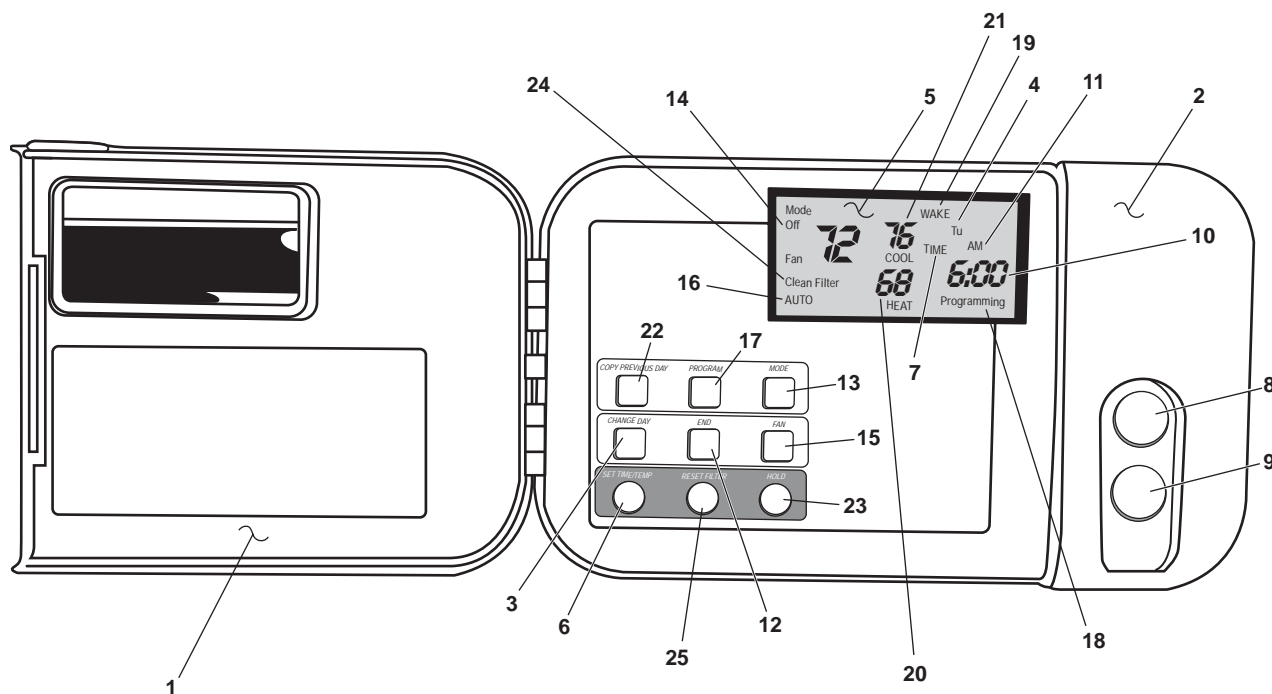

Figure 24. Pilothouse Rooftop Air Conditioning Thermostat
2. OPEN the cover (figure 24, item 1) of the thermostat (figure 24, item 2).
3. Verify/set the current day by pressing the CHANGE DAY BUTTON (figure 24, item 3) on the thermostat (figure 24, item 2) until the desired day (figure 24, item 4) is displayed on the Liquid Crystal Display (LCD) (figure 24, item 5).
4. Verify/set the current time by pressing the SET TIME/TEMP button (figure 24, item 6). The word TIME (figure 24, item 7) will flash on the LCD (figure 24, item 5).
5. Press the UP button (figure 24, item 8) or the DOWN button (figure 24, item 9) on the thermostat (figure 24, item 2) until the desired time (figure 24, item 10) and AM or PM (figure 24, item 11) is displayed on the LCD (figure 24, item 5).
6. Once the desired time has been set/verified, press the END button (figure 24, item 12) on the thermostat (figure 24, item 2).
7. Verify/set the mode of operation by pressing the MODE button (figure 24, item 13) on the thermostat (figure 24, item 2). The words OFF, HEAT, COOL, and AUTO (figure 24, item 17) will rotate in the MODE display (figure 24, item 14).
8. Press the MODE button (figure 24, item 13) until the desired mode is displayed in the MODE display (figure 24, item 14).
9. Press the FAN button (figure 24, item 15) on the thermostat (figure 24, item 2) to move the fan setting between ON (figure 24, item 19) and AUTO (figure 24, item 17) on the FAN display (figure 24, item 16).
10. CLOSE the cover (figure 24, item 1) of the thermostat (figure 24, item 2).
1. OPEN the cover (figure 24, item 1) of the thermostat (figure 24, item 2).
2. Press the program button (figure 24, item 17) on the thermostat (figure 24, item 2). The word PROGRAMMING will be displayed in the PROGRAMMING display (figure 24, item 18). The word TIME (figure 24, item 7) will flash. The word WAKE, DAY, EVE, or SLEEP will be displayed in the STATUS display (figure 24, item 19). The current day will be displayed (figure 24, item 4) with a two letter abbreviation.
3. Press the UP button (figure 24, item 8) or DOWN button (figure 24, item 9) on the thermostat (figure 24, item 2) until the desired time (figure 24, item 10) is displayed on the LCD (figure 24, item 5) for the time period displayed in the STATUS display (figure 24, item 19).
4. Press the SET TIME/TEMP button (figure 24, item 6) on the thermostat (figure 24, item 2). The word HEAT will flash on the HEAT display (figure 24, item 20).
5. Press the UP button (figure 24, item 8) or the DOWN button (figure 24, item 9) on the thermostat (figure 24, item 2) until the desired temperature (figure 35, item 7) is displayed on the HEAT display (figure 24, item 20).
6. Press the SET TIME/TEMP button (figure 24, item 6) on the thermostat (figure 24, item 2). The word COOL will flash on the COOL display (figure 24, item 21).
7. Press the UP button (figure 24, item 8) or the DOWN button (figure 24, item 9) on the thermostat (figure 24, item 2) until the desired temperature is displayed on the COOL display (figure 24, item 21).
8. Press the PROGRAM button (figure 24, item 17) on the thermostat (figure 24, item 2) to advance to the next desired time period (WAKE, DAY, EVE, or SLEEP).
10. Press the END button (figure 24, item 12) on the thermostat (figure 24, item 2) once all time periods (WAKE, DAY, EVE, and SLEEP) have been programmed.
11. CLOSE the cover (figure 24, item 1) of the thermostat (figure 24, item 2).
3. Press the CHANGE DAY button (figure 24, item 3) in the thermostat (figure 24, item 2).
4. Press the COPY THE PREVIOUS DAY button (figure 24, item 22) on the thermostat (figure 24, item 2).
6. CLOSE the cover (figure 24, item 1) on the thermostat (figure 24, item 2).
2. Press the HOLD button (figure 24, item 23) on the thermostat (figure 24, item 2). The word HOLD will be displayed above the COOL display (figure 24, item 21). The comfort schedule is disabled until the HOLD button is pressed again.
3. To return to the comfort schedule press the HOLD Button (figure 24, item 23) on the thermostat (figure 24, item 2).
2. The words CLEAN FILTER (figure 24, item 24) are displayed on the LCD (figure 24, item 5) after 800 hours of operation to remind the crewmembers to service the filter. Refer to TM 55-1925-224-24&P for filter servicing instructions.
3. OPEN the cover (figure 24, item 1) of the thermostat (figure 24, item 2).
3. After the filter has been serviced, press the RESET FILTER button (figure 24, item 25) on the thermostat (figure 24, item 2).
4. CLOSE the cover (figure 24, item 1) of the thermostat (figure 38, item 2).